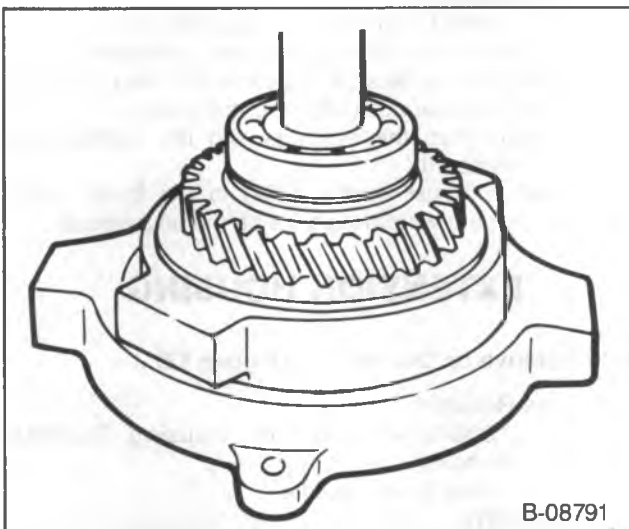
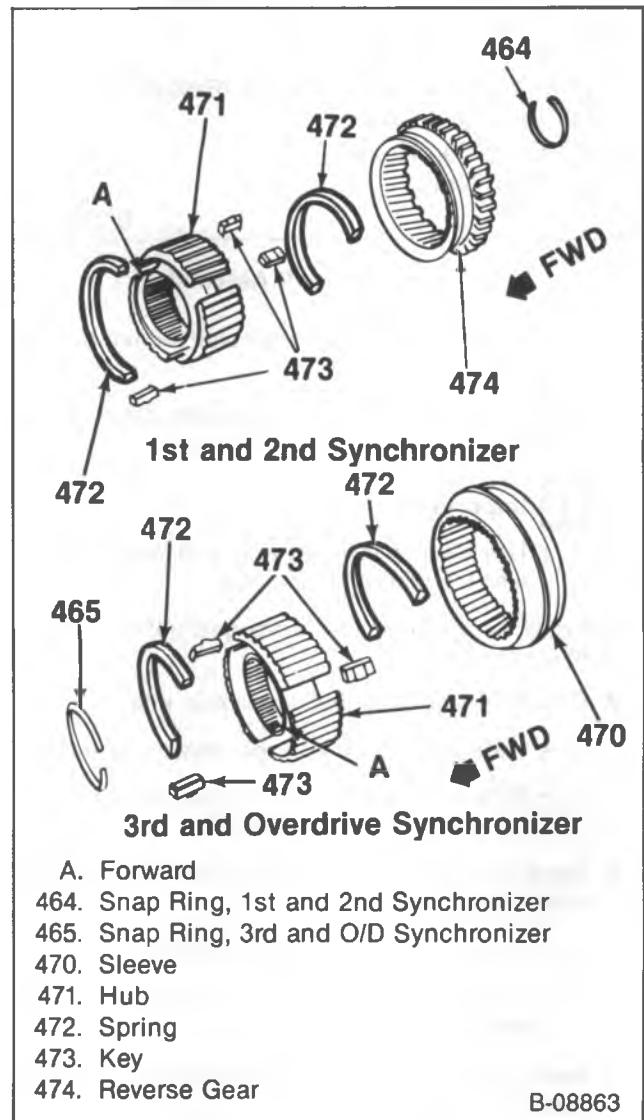

Figure 8—Pressing the Mainshaft through the Bearing
Figure 9—Synchronizer Components
5. Rear bearing (415) and the 1st speed gear (414).
- Press the mainshaft through the bearing and the gear (figure 8).
7. Remove the snap ring and the 1st and 2nd synchronizer (412).
8. Remove the 2nd speed blocker ring and the 2nd speed gear (410).
9. Synchronizers (407 and 412) (figure 9).
1. Synchronizers (407 and 412) (figure 9).